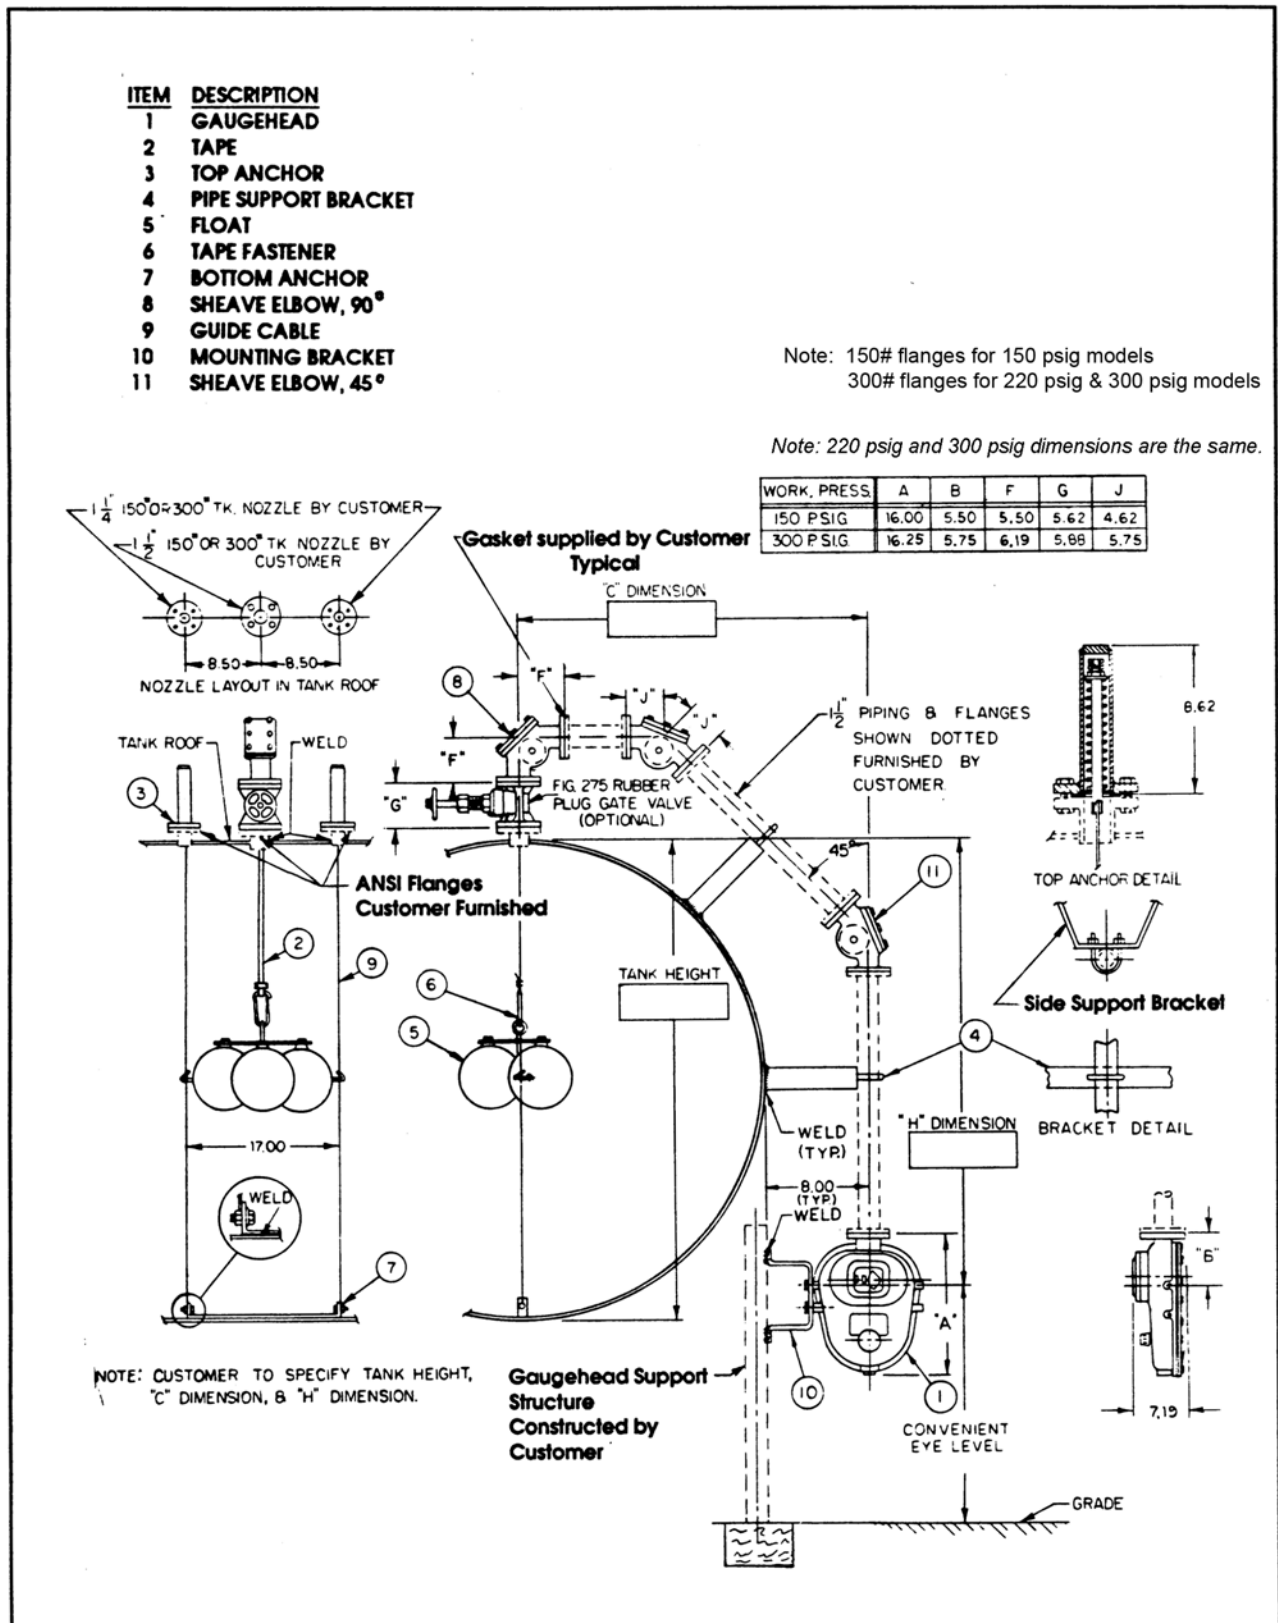

Figure 3-8: Typical Grade Level Installation for Spheres to 48 Feet Diameter
For spheres to 48 feet diameter with the gaugehead located on the side, near grade level see Figure 3-8 on page 25 for feature/option installation kit codes N2520 01 T02, N2520 02 T02, N2520 03 T06, N2520 04 T06, N2520 05 T05, and N2520 06 T06. Refer to Table 8-1, Table 8-2, and Table 8-3 on pages 57 and 58 for details.
2. Provide the roof holes shown in the Figure 3-8 on page 25, centered on this position. The guide cable holes are centered 8.50 inches (216 mm), each side of the center of the cluster of floats. The tape pipe is centered on a 17.00 inch (432 mm) diameter. The plug valve is also centered on this dimension.
Figure 3-8 shows a typical grade level installation for spheres to 48 feet in diameter.